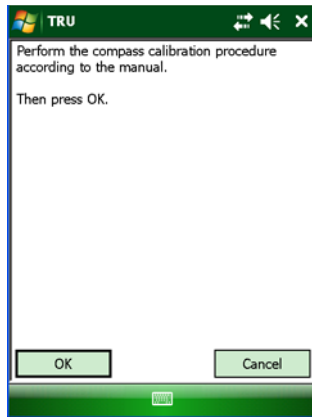

Figure 4-3. Begin Compass Calibration
2. Press **Calibrate**, and then start the calibration as shown in Figure 4-3.